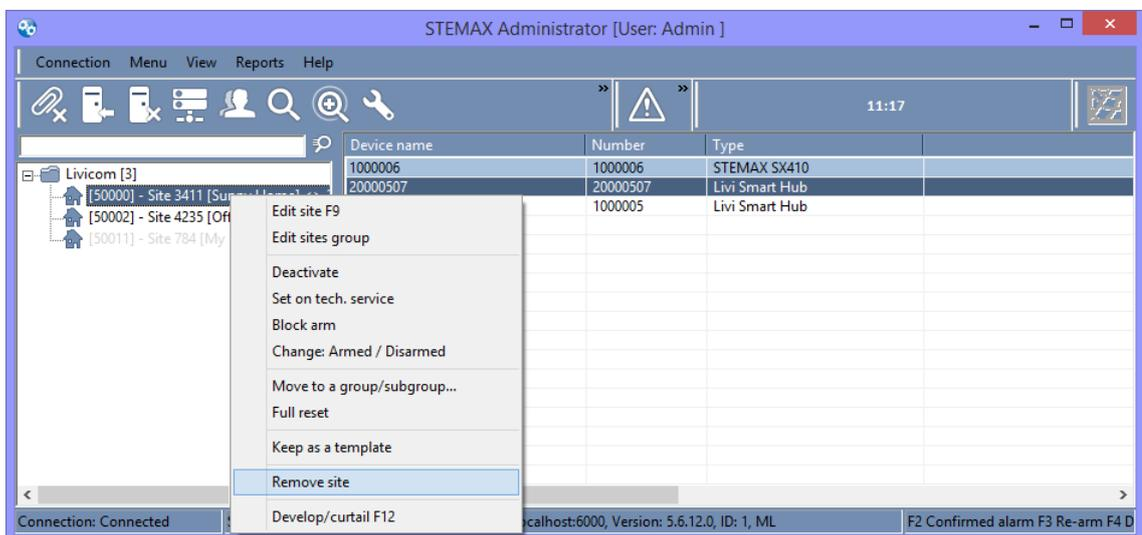

Figure 9.20 – Disabling the security service
3. Right-click on the site name and select "*Delete site*" in the context menu (see figure 9.20).